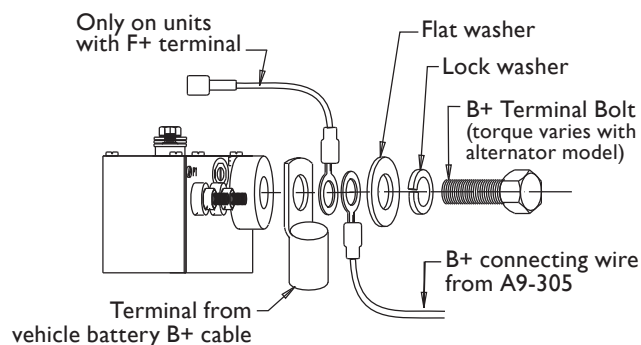

Figure 2 - Alternator B+ Terminal Stacking Order
- d. Connect B+ connecting wire from unit to alternator B+ terminal, splicing B+ wire length if required from step 1, as shown in Figure 2.
3. Connect "B+" connecting wire from unit to component power supply, splicing B+ wire length if required from step 2a. See Figure 2 on page 1 for stacking order.